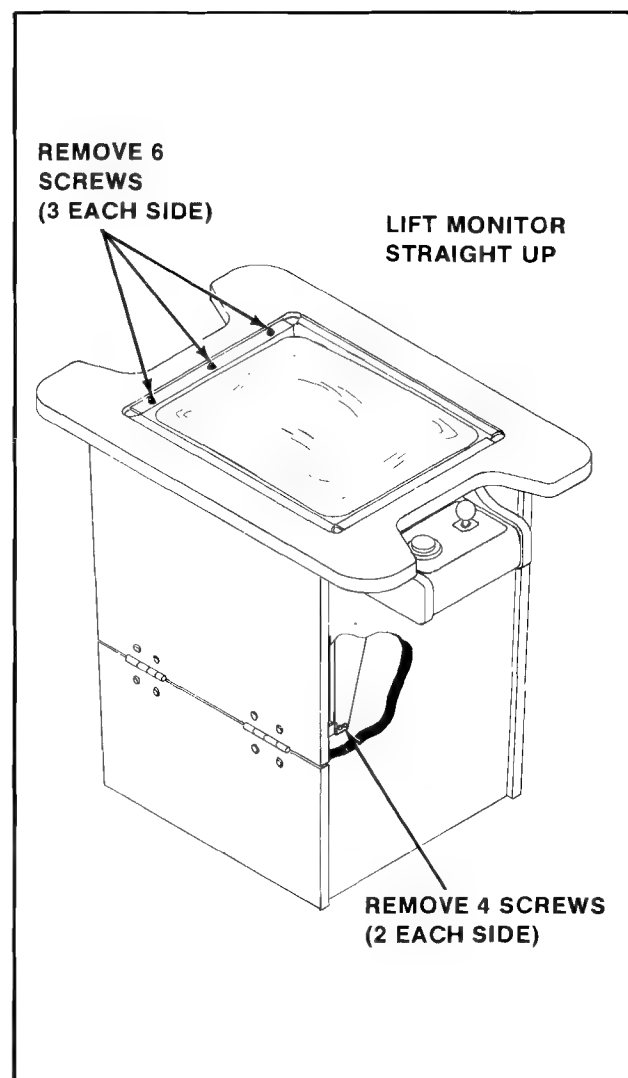

Figure 4-11 Removing the Monitor — Cocktail
- ☐ Remove the screws holding the T.V. monitor chassis to the "L" brackets by the door hinge(s). See Figure 4-11.
- ☐ Remove the screws which secure the T.V. monitor mounting brackets to the edges of the slot cut in the table top. See Figure 4-11.